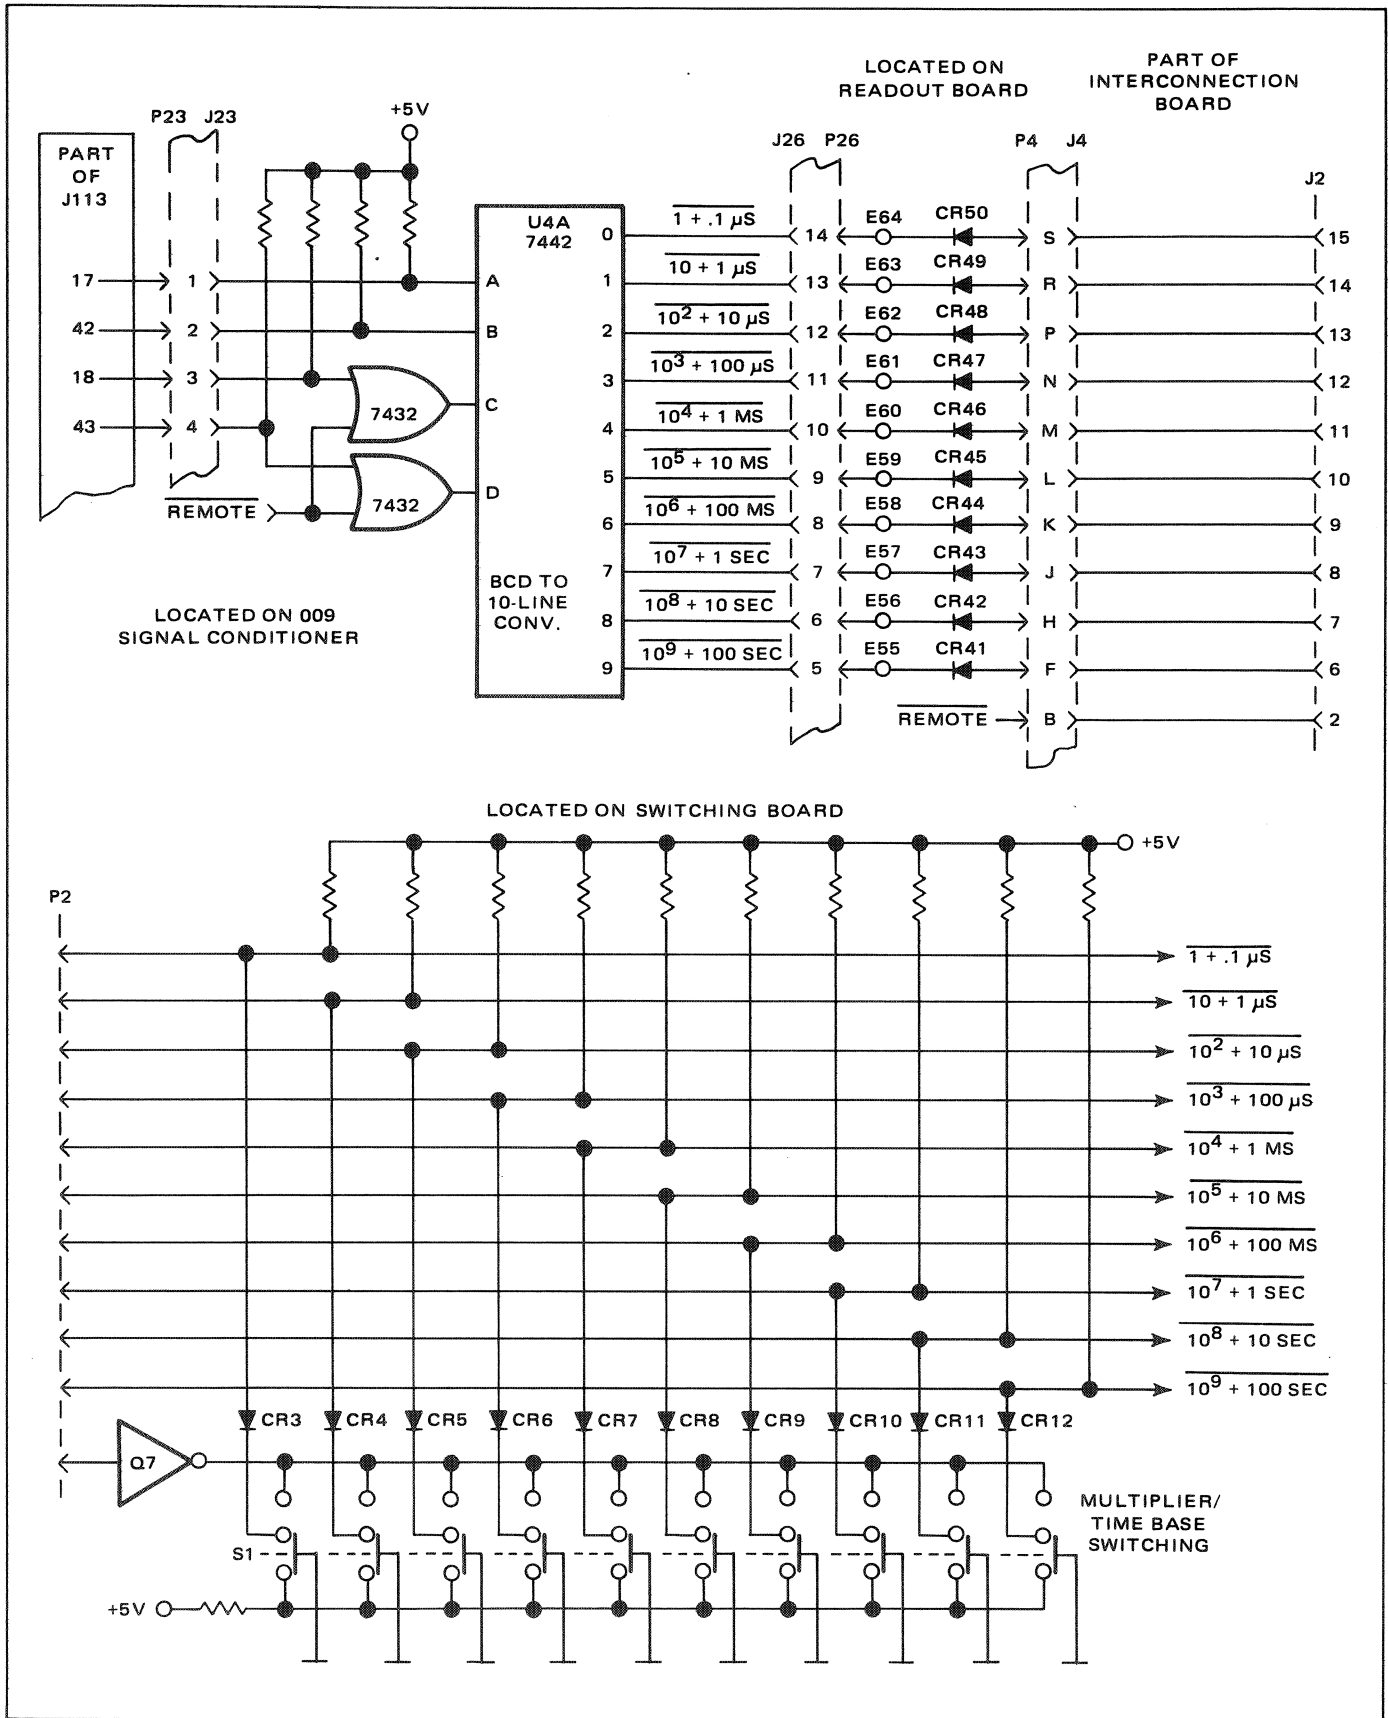

Figure 3.9 - Remote Multiplier/Time Base Decode (8010B, 8030B)
3.38 As shown in figure 3.9 the remote BCD input is converted to 10-line by U4A and routed to the switching board. With remote selected, the $\overline{\text{REMOTE}}$ line is at logic 0. The two 'OR' gates (7432) are not affected but switch S1 is disabled (the logic 0 of the $\overline{\text{REMOTE}}$ is inverted to logic 1 by Q7, and S1 can not pull down any of the control lines to logic 0). The BCD input is converted to its numeric equivalent and appears as a logic 0 at the specified output terminal.